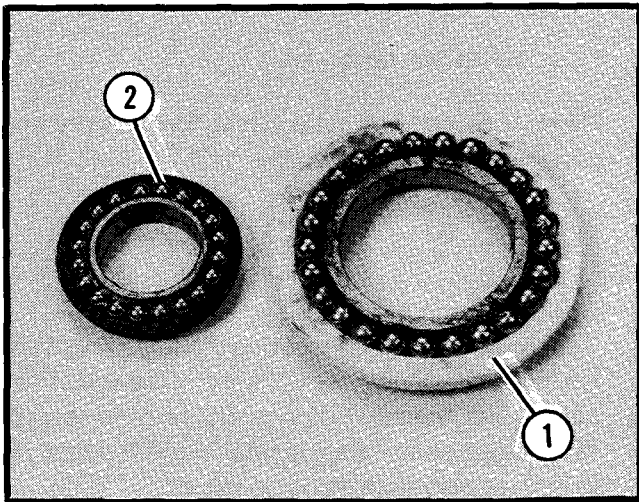

Figure 7.
Place 1/4 ball bearings in lower bearing cone. Apply a liberal amount of wheel bearing grease. Place felt dust shield around bearings to hold them in place. See figure 7.
- Place 3/16 ball bearings in upper bearing cup. Apply liberal amount of wheel bearing grease. Place dust shield around bearings to hold them in place. See Figure 7.